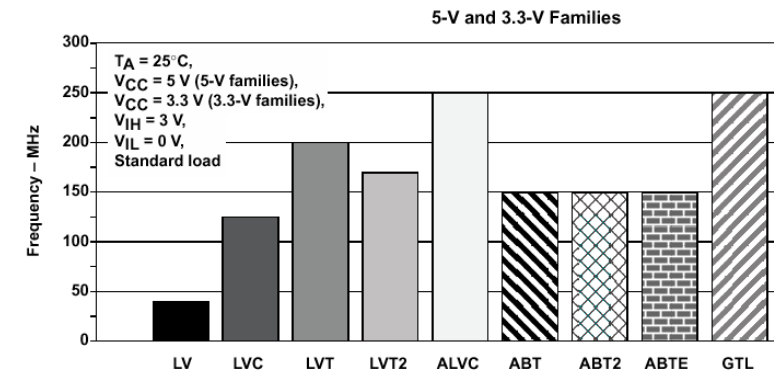

Figure 7.5 Maximum frequency of operation for different logic families (TI)
- Figures 7.5 shows the maximum frequency at which a family can operate and still meet the  $V_{OH}$  and  $V_{OL}$  specifications. No frequency beyond the maximum number is acceptable.